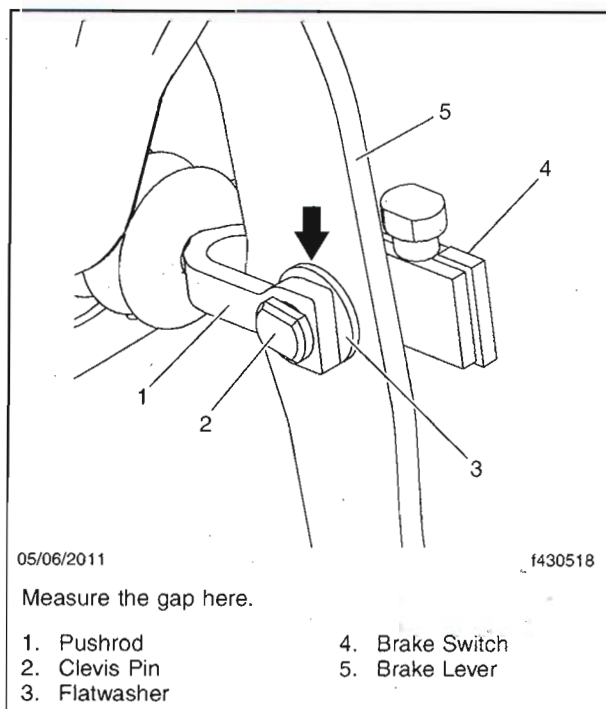

Fig. 3, Brake Switch Installation (fixed pedal shown)
- Install the new clevis pin, flatwashers, brake switch, and hitch pin from the kit. Make certain one flatwasher is between the pushrod and the brake lever as shown in **Fig. 3**.
- Using a feeler gauge, measure the space between the flatwasher and the brake pedal as shown in **Fig. 3**.